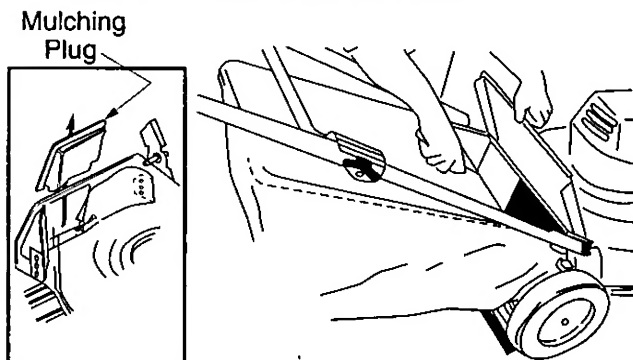

Figure 7.
11. Lift the chute door on the mower. Remove the mulching plug. Place hooks on the grass catcher frame over the chute door pivot rod on the back of the unit. See figure 7. Release the chute door.